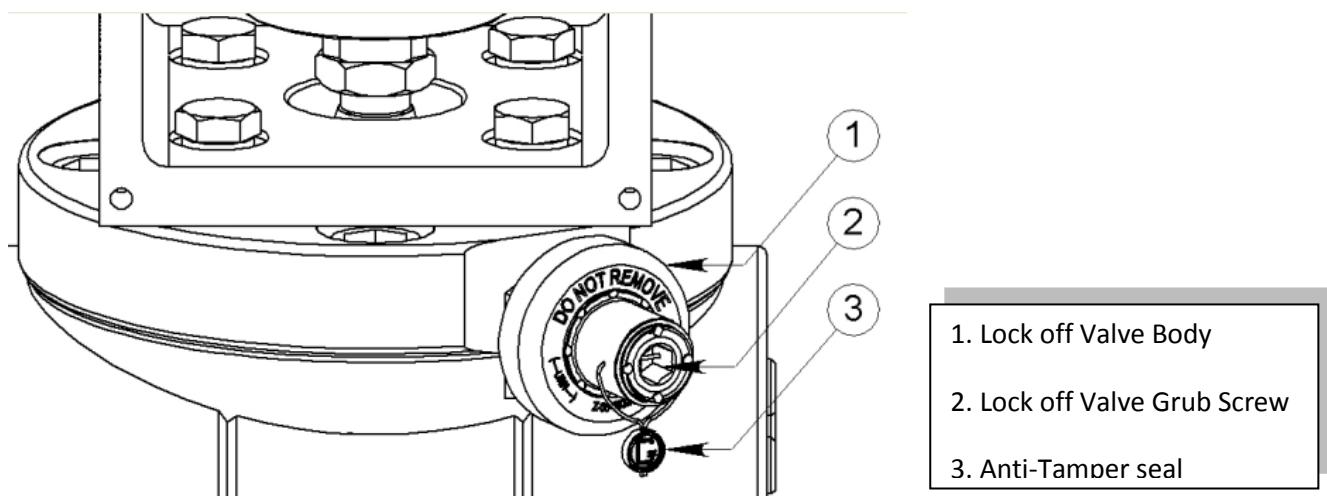

Fig 4.0 - Lock off Valve
11.1.7 Lock off Valve (Optional) - Check for leakage from this area. If a leak is identified (leakage can be confirmed by a slight noise or presence of grease), stop the leak to atmosphere by tightening the lock off grub screw. See Fig 4.0 for diagram of the Lock off Valve arrangement.